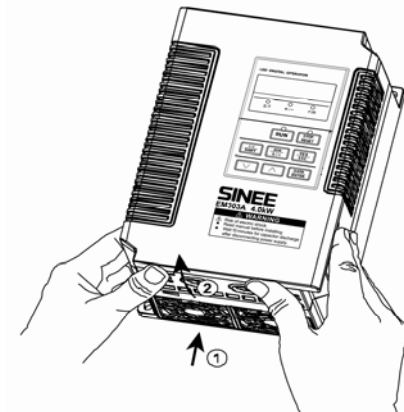

Figure2-3 Remove the Front Cover
- Remove the front cover: For EM303A-7R5 or below, push the cover vertically from the bottom with two hands, and then lift up outwards. See Figure 2-3.